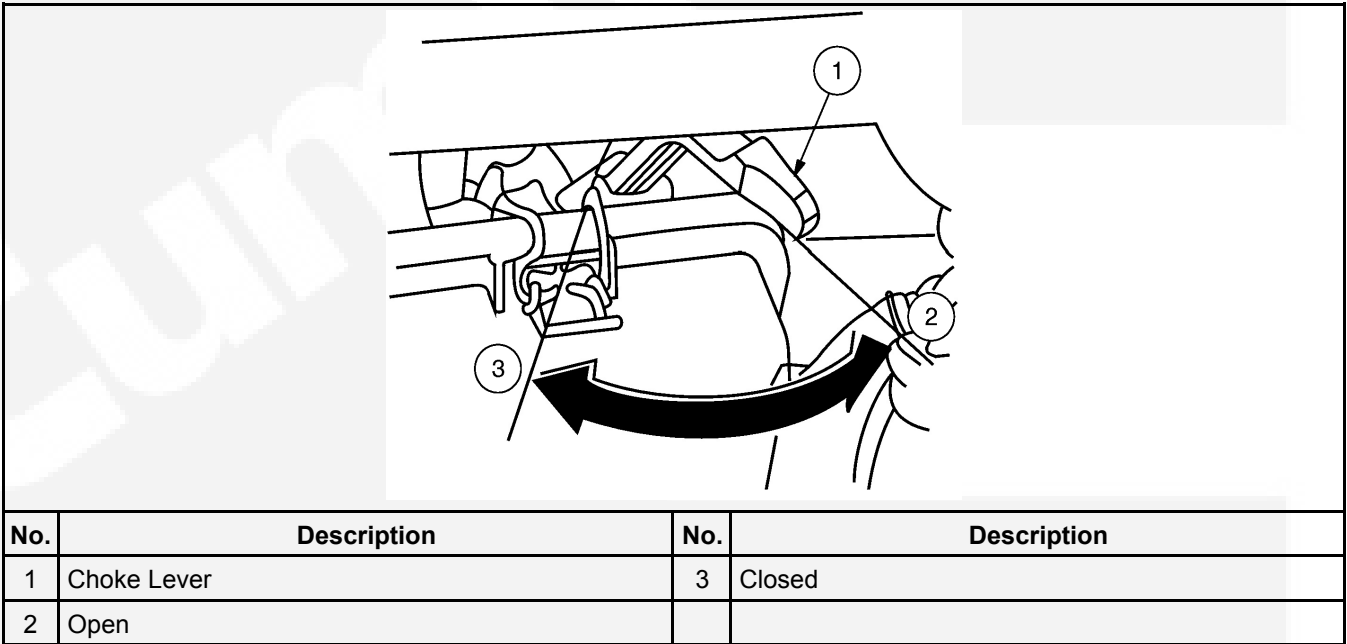

FIGURE 6. CHOKE ROD
2. Pull the choke rod out to close the choke if the engine is cold (see Figure 6).